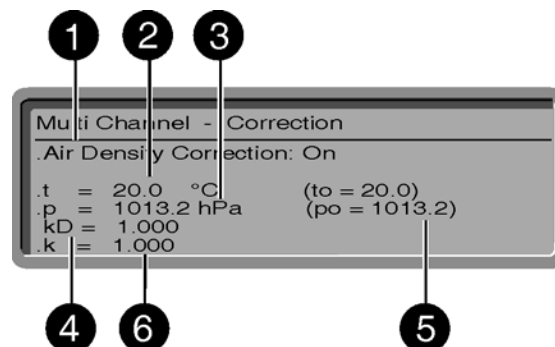

Figure 7-6: Correction menu for correction "on"
The correction menu will appear (Figure 7-6). The cursor is flashing on "Air density correction".
- If the display indicates "Air density correction: On" the correction function is enabled. The current values for correction are displayed (Figure 7-6). You can now change the values in this window. Otherwise press ESC to quit the menu.
If the correction function is enabled, you can enter the ambient temperature and atmospheric pressure in the correction menu (Figure 7-6).
The factory-set reference temperature (5, Figure 7-6) may be 20 °C or 22 °C. Please verify that the entered calibration factors apply to the set reference temperature.
Furthermore, you can enter an additional, overall correction factor "k" can be entered. Any value between 0.500 and 2.000 can be entered for the correction factor "k" (6, Figure 7-6). This factor is applied to all 12 measuring values.